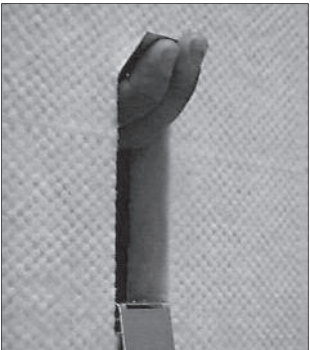

Figure 11
- Bend both tabs at the second bend point up or down to pinch the duct material and grip the duct material (Figures 11 & 12).